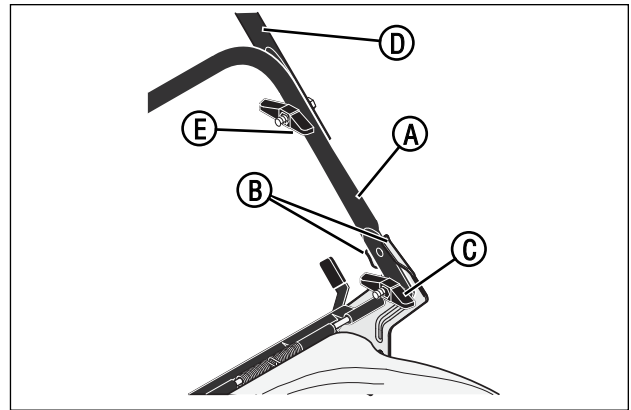

Figure 1: Unfolding the handle
3. For all models except hi-wheel models, raise the lower handle (**A, Figure 1**). Make sure the lower handle is between the locking tabs (**B**). Tighten the lower wingnuts (**C**).
4. Put the upper handle (**D, Figure 1**) in the operating (upright) position. Tighten the upper wingnuts (**E**).